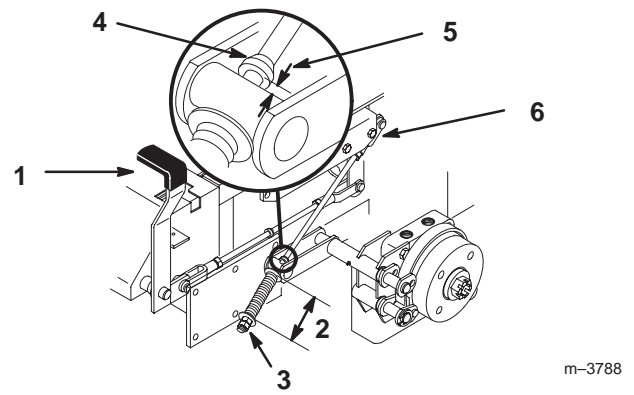

Figure 50
2. Measure the length of the spring. Measurement should be 2.75 in. (70 mm) between washers (Fig. 50).
3. If adjustment is necessary, loosen the jam nut below the spring and tighten the nut directly below the yoke (Fig. 50). Turn the nut until the correct measurement is obtained. Tighten the two nuts together and repeat on opposite side of unit.
- A. Measure the distance between the trunnion roller and the collar on brake rod. Measurement should be 3/16–1/4 in. (5–7 mm) (Fig. 50).
6. If adjustment is necessary, loosen the jam nut directly below the yoke. Turn the bottom rod until the correct measurement is obtained (Fig. 50). Tighten jam nut at yoke